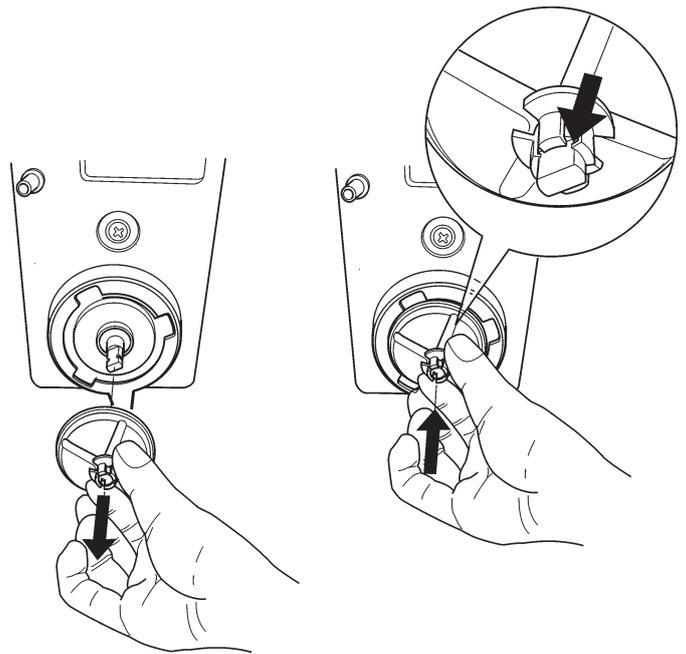

Fig. 11
- To disassemble the impellers, pull slightly to release them (fig. 11);